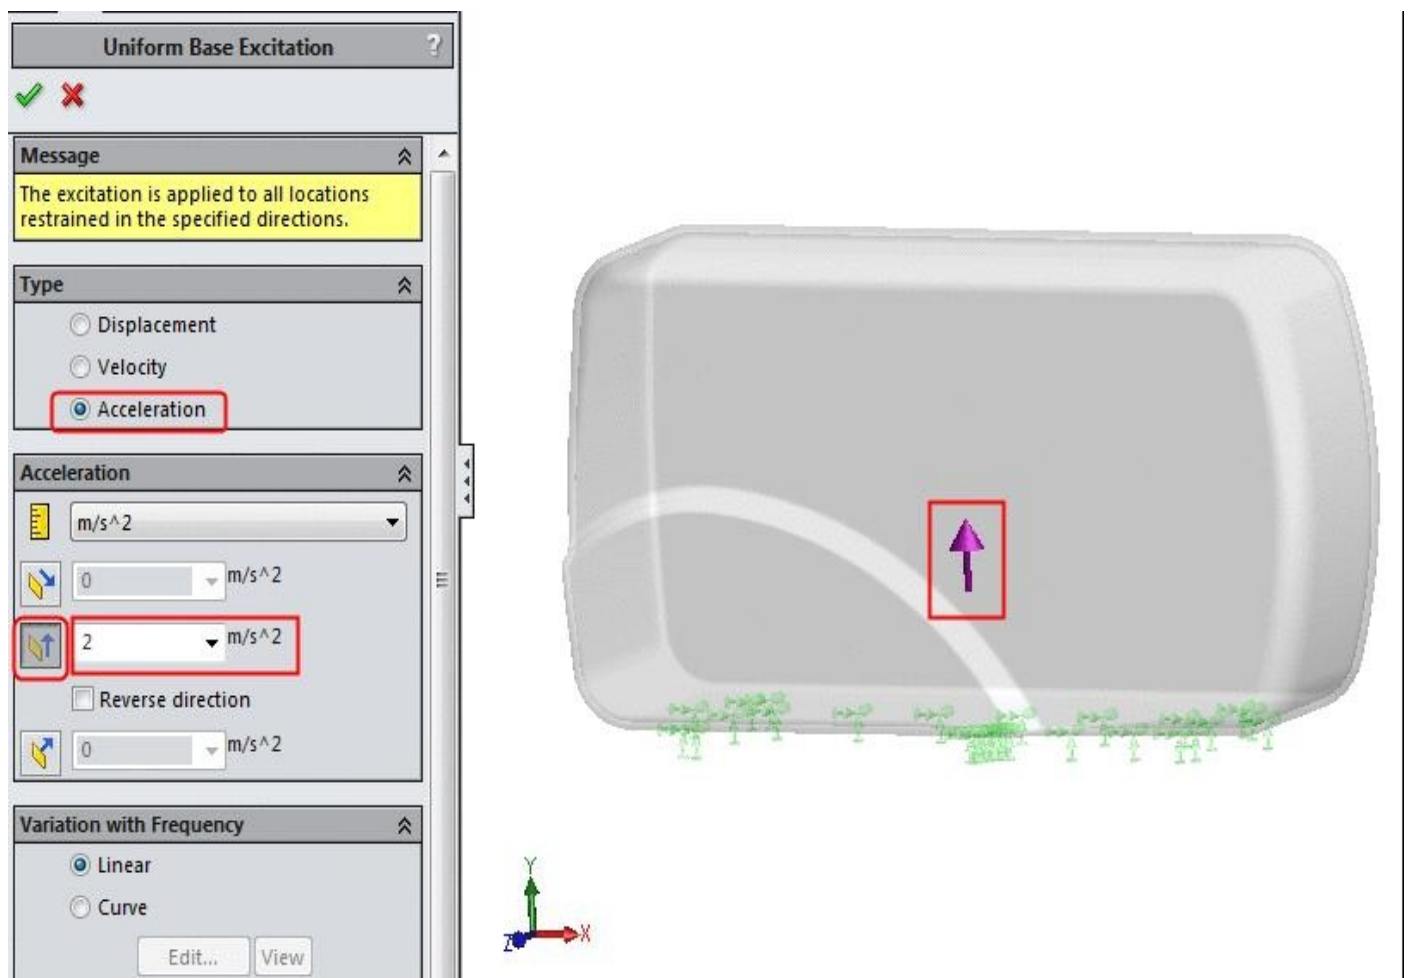

Figure-26. Uniform Base Excitation PropertyManager
- Select the **Acceleration** radio button from the **Type** rollout and specify **2** in vertical direction; refer to Figure-26.